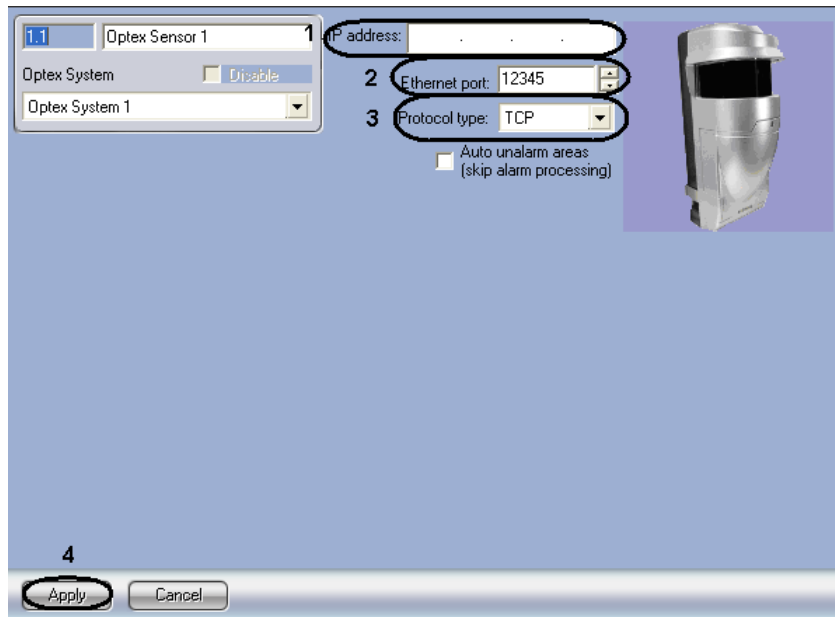

Fig. 3.3—2 Configuring *Optex's* connection to *Intellect*
2. In the **IP address** field, enter the sensor's IP address (Fig. 3.3—2, 1).